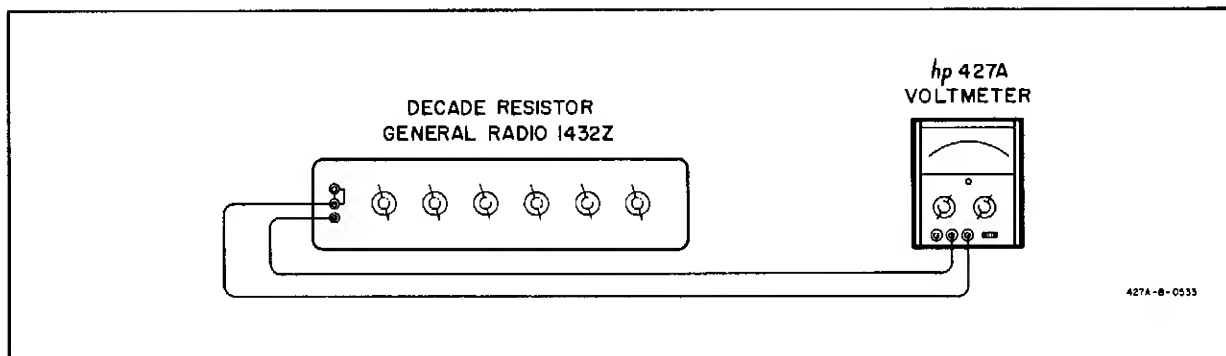

Figure 5-2. Resistance Accuracy Check
5-15. To check the resistance accuracy, precision resistances are needed. Figure 5-2 shows the resistance accuracy check using a General Radio Model 1432Z Decade Resistor. The resistance used should be accurate to within $\pm 0.5\%$ and should have a range of 10 ohms to 10 M ohms.
- b. Connect the decade resistor and the Model 427A as shown in Figure 5-2, and set the decade for 10 Ω .